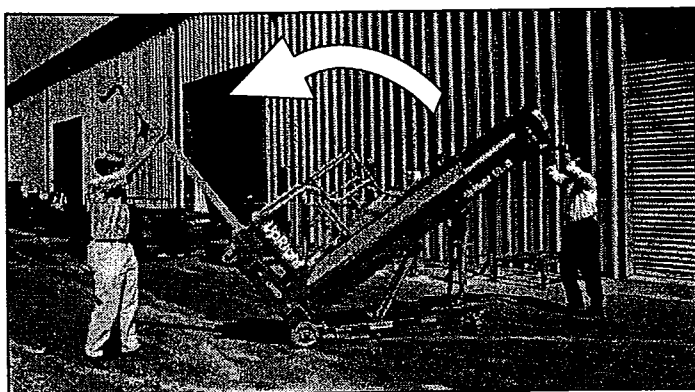

Figure 3-18: Extending the Gas Springs
4. Push up first on the upper handle bars, then on the lower handle bars while another person receives the outrigger and pulls it downward until the gas spring assembly is fully extended (fig. 3-18). DO NOT stand under the outrigger when performing this operation.